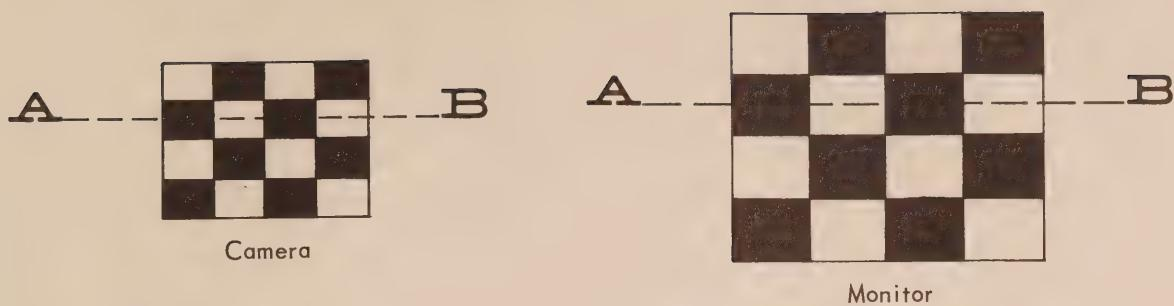

Figure 4
Figure 4 represents a checkerboard pattern projected through the lens on to the photo-sensitive surface of the pick-up tube and also shows the display on the monitor. Considering only one scanning line (AB) the image will be scanned from left to right - first scanning through the black area, then the white, then through black, then through white again.